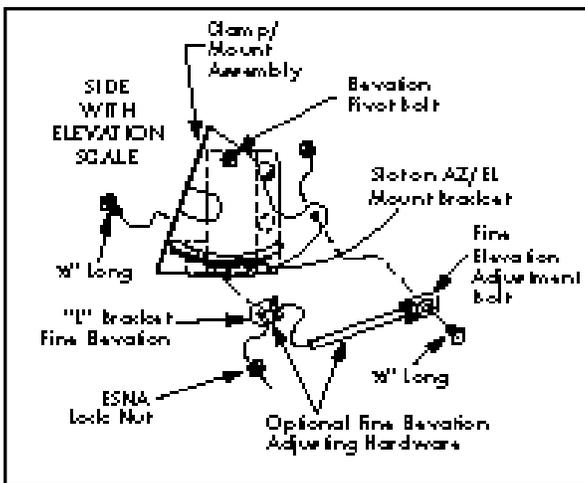

FIGURE 6
10. **For models with fine tune adjustment**, make the **initial elevation** adjustment from the value listed for your site location which was determined from your satellite receiver menu screen. Be sure both bolts in the slots are 1/3 turn loosened from tight. Adjust the elevation until the **white painted clamp tab edge indicator** aligns with the desired elevation value on scale. See Figures 6 and 6A..